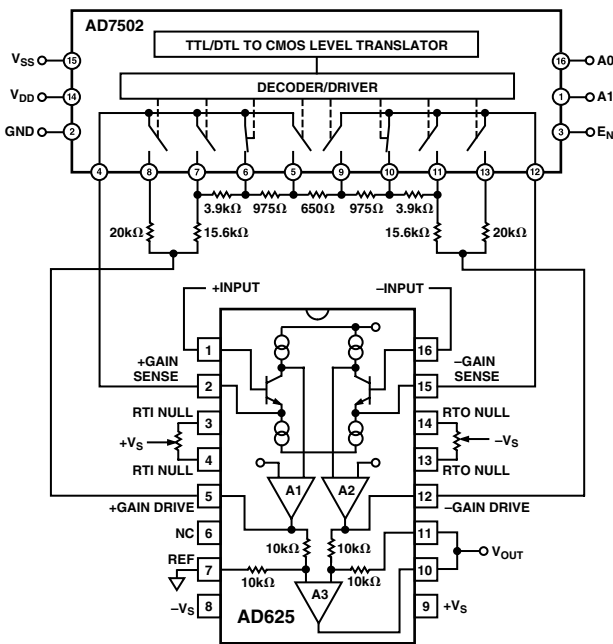
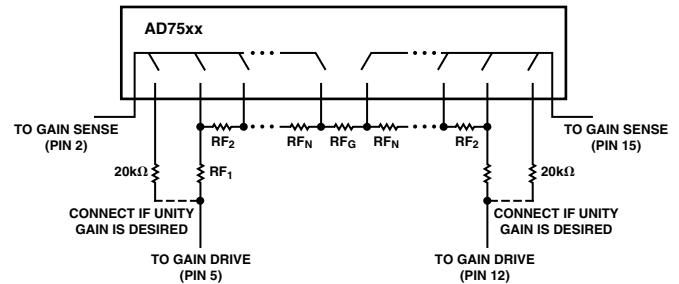

Figure 38. SPGA in a Gain of 16
Figure 41. Resistors for a Gain Setting Network
Figure 38 shows an AD625 based SPGA with possible gains of 1, 4, 16, 64. R_G equals the resistance between the gain sense lines (Pins 2 and 15) of the AD625. In Figure 38, R_G equals the sum of the two 975 Ω resistors and the 650 Ω resistor, or 2600 Ω. R_F equals the resistance between the gain sense and the gain drive pins (Pins 12 and 15, or Pins 2 and 5), that is R_F equals the 15.6 kΩ resistor plus the 3.9 kΩ resistor, or 19.5 kΩ. The gain, therefore equals:
The individual resistors in the gain network can be calculated sequentially using the formula given below. The equation determines the resistors as labeled in Figure 41. The feedback resistors and the gain setting resistors are interactive, therefore; the formula must be a series where the present term is dependent on the preceding term(s). The formula
can be used to calculate the necessary feedback resistors for any set of gains. This formula yields a network with a total resistance of 40 kΩ. A dummy variable (j) serves as a counter to keep a running total of the preceding feedback resistors. To illustrate how the formula can be applied, an example similar to the calculation used for the resistor network in Figure 38 is examined below.
- 1) Unity gain is treated as a separate case. It is implemented with separate 20 kΩ feedback resistors as shown in Figure 41. It is then ignored in further calculations.
- 2) Before making any calculations it is advised to draw a resistor network similar to the network in Figure 41. The network will have (2 × M) + 1 resistors, where M = number of gains. For Figure 38 M = 3 (4, 16, 64), therefore, the resistor string will have seven resistors (plus the two 20 kΩ “side” resistors for unity gain).
- 5) If different resistor values are desired, all the resistors in the network can be scaled by some convenient factor. However, raising the impedance will increase the RTO errors, lowering the total network resistance below 20 kΩ can result in amplifier instability. More information on this phenomenon is given in the RPGA section of the data sheet. The scale factor will not affect the unity gain feedback resistors. The resistor network in Figure 38 has a scaling factor of 650/625 = 1.04, if this factor is used on R_{F_1} , R_{F_2} , R_{F_3} , and R_G , then the resistor values will match exactly.